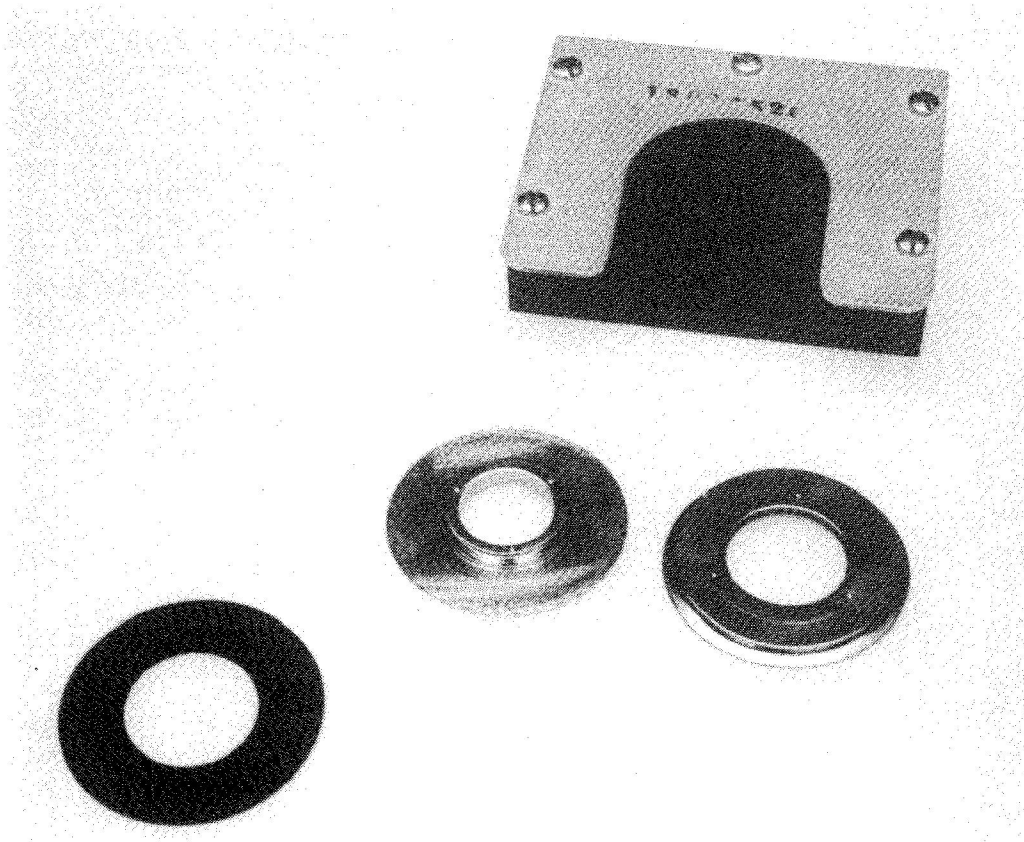

Figure 3-3: One-inch ID Blade with Adapter and Disassembly Tool
Figure 3-3 shows a disassembled blade holder, a 1 inch ID (inside diameter) unmounted blade, and the disassembly tool for the adapter. Blade exposure is one-half the difference between the blade OD (outside diameter) and the OD of the adapter.
- o Place the hub on a clean surface with the flat side down. (Refer to Figure 3-3.)